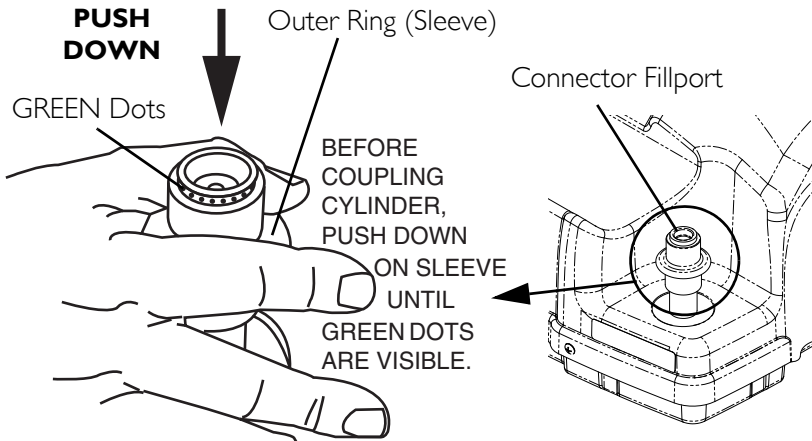

FIGURE 4.3 Resetting Connector Fillport
5. On the compressor unit, momentarily push **DOWN** on the outer ring (sleeve) of the connector fillport to reset the connector (FIGURE 4.3).